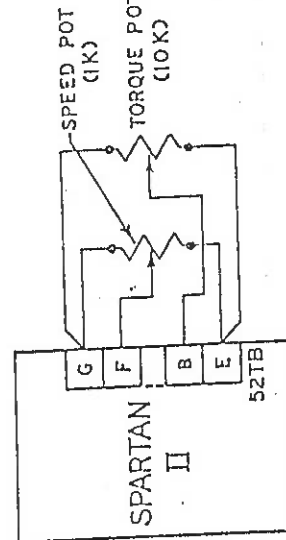

FIG. 12.6.3
- Connect a 10K ohm potentiometer between 52 T3 terminals G, E, and B as shown in Fig. 12.6.3.